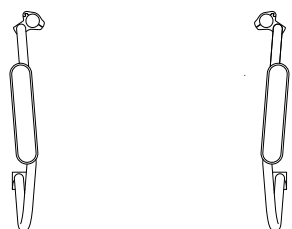

Fig. 14
6. Conversely, the rear seat width increases when you position the clamps outwards (Fig. 14).